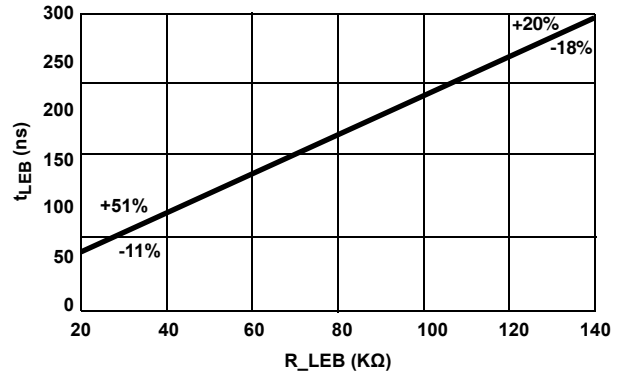

FIGURE 11. R\_LEB vs t\_LEB
- The blanking time can be estimated with Equation 9, whose relationship can be seen in Figure 11. The percentages in the figure are the tolerances at the two endpoints of the curve.